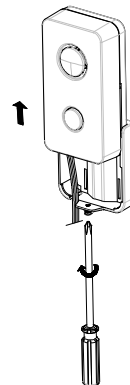

FIGURE 1
1. Remove bottom screw and slide mounting plate of base unit. (FIGURE 1).